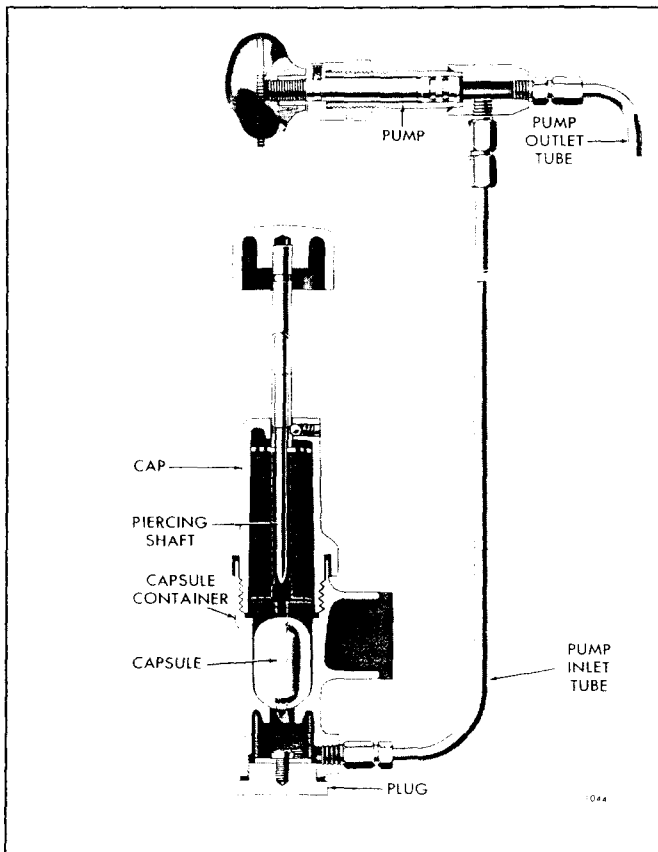

Fig. 2 · Fluid Starting Aid
The fluid starting aid is designed to inject a highly volatile fluid into the air intake system to assist ignition of the fuel at low ambient temperatures. It consists essentially of a pump and nozzle for injecting the fluid into the air intake and a suitable container for the fluid (Fig. 2). The fluid is contained in suitable capsules to facilitate handling.
1. Refer to Fig. 2 and remove the cap from the capsule container. Insert a fluid capsule in the container.
The principal parts of the starting aid pump are the body, plunger and the spring-loaded ball type inlet and outlet check valves (Fig. 2). The pump body is threaded externally at one end for mounting purposes. One end of the plunger is threaded into the operating knob. Two seal rings of oil resistant material are located in grooves at the other end of the plunger. The inlet check valve, which opens on the suction stroke of the plunger and seats under pressure, is located in the side opening of the pump body. The outlet check valve, which seats under suction and opens under pressure, is installed in the end opening of the pump body. The check valves are identified by the number "1/2" stamped on the inlet valve and the number "30" on the outlet valve. An arrow indicating the direction of flow is also stamped on each check valve.